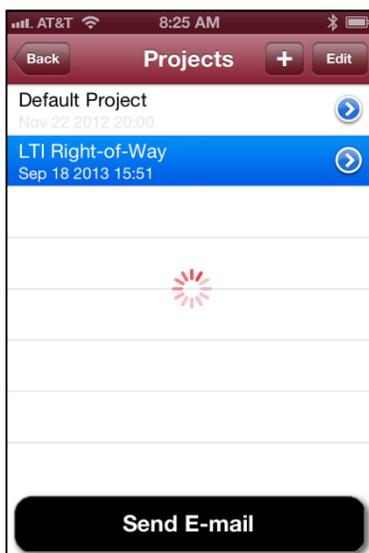

Figure 26
1. To email a project, tap its name to highlight it in blue and tap the "Send E-mail" button at the bottom of the screen (Figure 26).